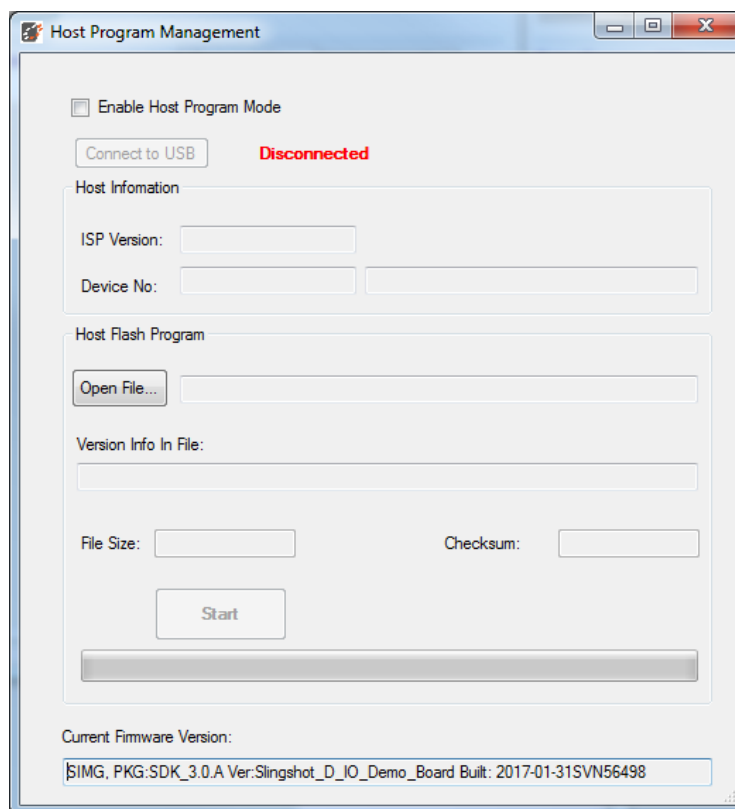

Figure 2.9. Snap Tool – Host Program Management
4. The Host Program Management window appears, as shown in Figure 2.9.